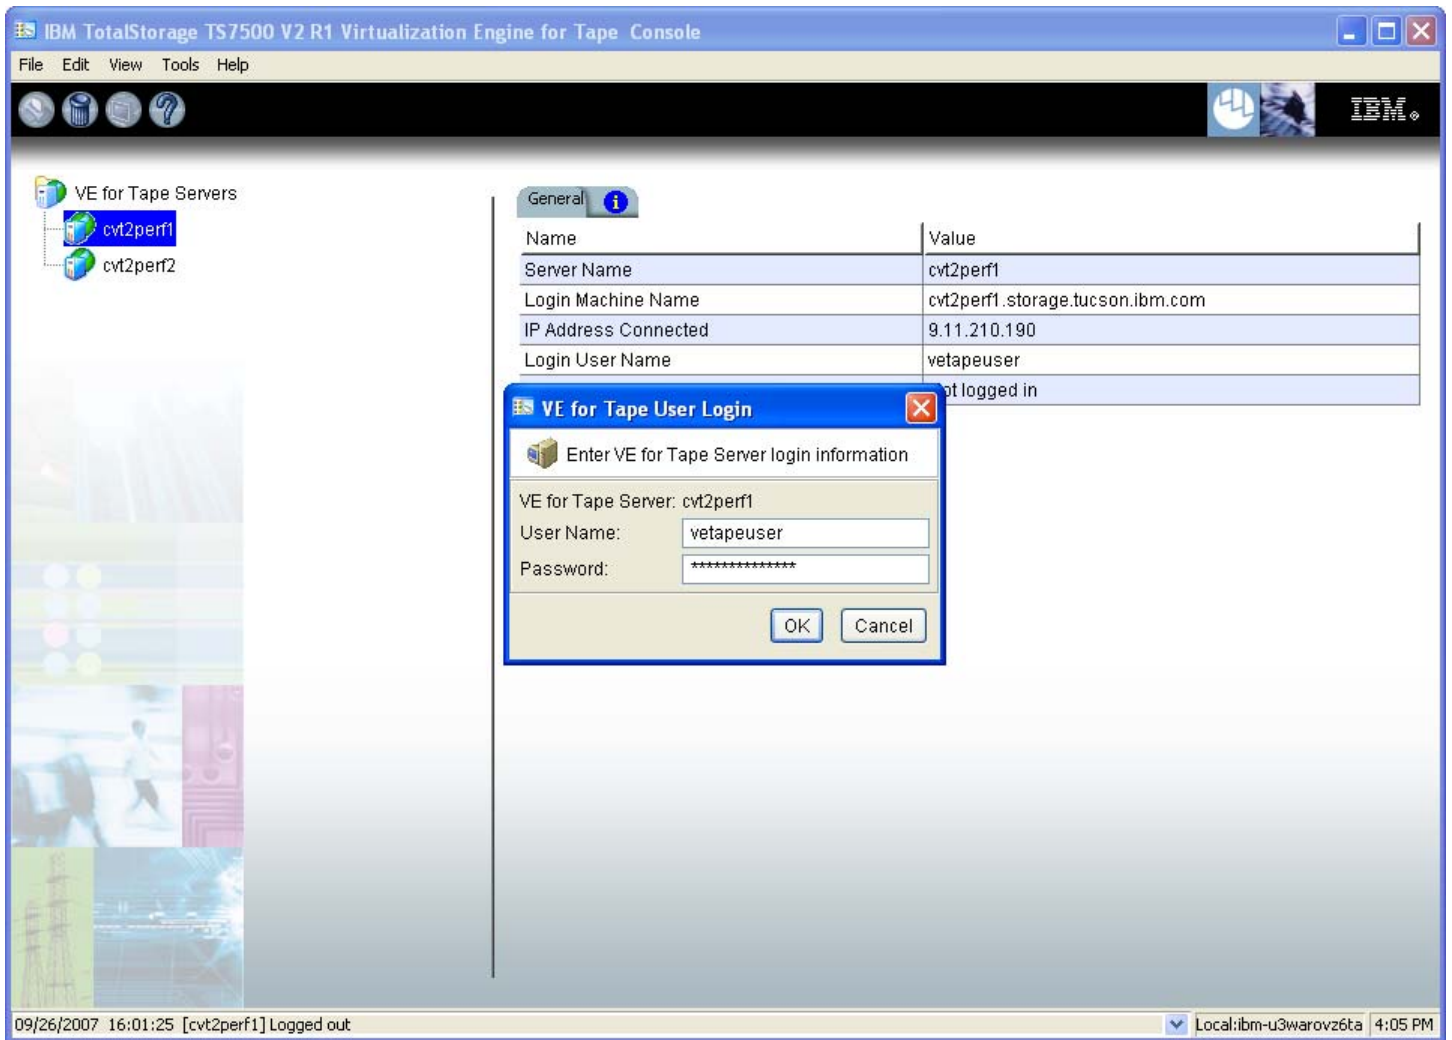

Figure-4
For HA configurations (FC-7420 Failover/Failback Enable), use the **VE for Tape Console** application to Suspend Failover on both 3954-CV6 servers in the frame. Refer to Figure-3 and Figure-4, and use the following procedure to Suspend Failover **on each server in the frame (both the upper and lower server if in an HA environment)**.
1. If necessary, repeat steps 1 through 4 in section 1.0 to start the **VE for Tape Console** application and login to the VE for Tape server (Figure-4), or highlight the VE for Tape server if already connected, using the following userid and password: